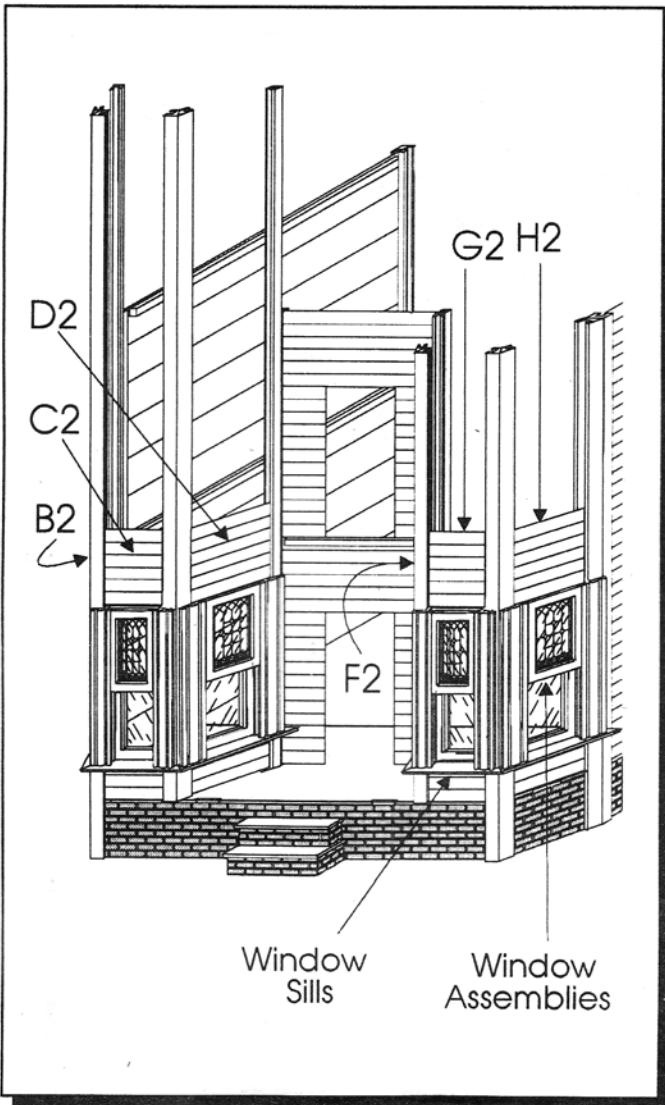

Figure 17
12. Slide but do not glue the Siding Walls B2, C2, D2, F2, G2, and H2 down corner posts. See Figure 17.
13. Mark the insides of Siding Walls B2, C2, D2, F2, G2, and H2 at 9 5/8" from the Base Floor. Mark the outsides of Siding Walls D2 and F2 at 9 5/8" from the Base Floor. Remove the Siding Walls. Glue 2 1/2" long sections of 5-46 molding into place on the insides of the walls and 2" pieces on the outsides of walls D2 and F2 (Glue 3/4" from the front edge, 1/4" from the back edge) as before on Walls A, E, and I. These will support the Balcony Floor. After the 5-46 has dried apply wallpaper. Install and glue Siding Walls B2, C2, D2, F2, G2, and H2 into place. Check to make sure the tops of these walls are the same height. See Figure 17.